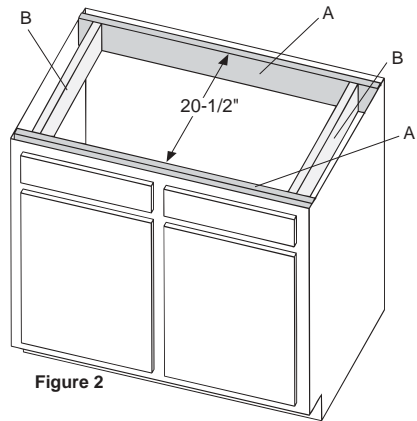

Figure 2
2. Attach two support boards to the sides of the cabinet, one in front and one in back, placing them 20 1/2" apart and equal distances from the centerline (See **Figure 2**, A). Place the boards at the proper height to allow the top of the sink to be flush with the top of the cabinet. It may be necessary for you to reinforce the sides of the cabinet for it to support the 350-pound minimum.
4. Now that you have the sink in position, attach two more 20 1/2" boards between the support boards (See **Figure 2**, B).